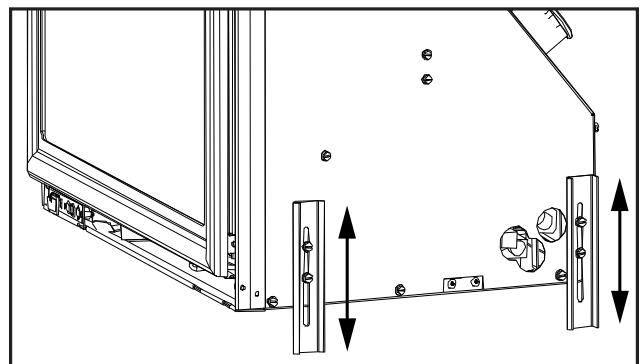

Figure 31: Levelling legs position.
5. If the fireplace opening is lower than 19" (483mm), remove the vent collar plate from the top of the insert by unscrewing the two (2) T-20 Torx screws located on the center top of the stove. Slide the collar plate backwards. Properly secure the vent collar plate to the flexible vent pipe liner(s) previously installed in the chimney. Be careful not to over-stretch the liner(s).
8. Using a $\frac{1}{4}$ " hex driver, adjust the levelling legs to ensure the unit is level and high enough if a base shelf and/or riser is to be installed. There are two (2) levelling legs on each side (shown in Figure 31).